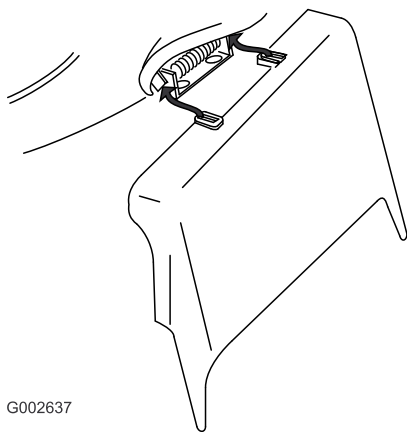

Figure 29
3. Install the side discharge chute and close the door onto the chute (Figure 29).